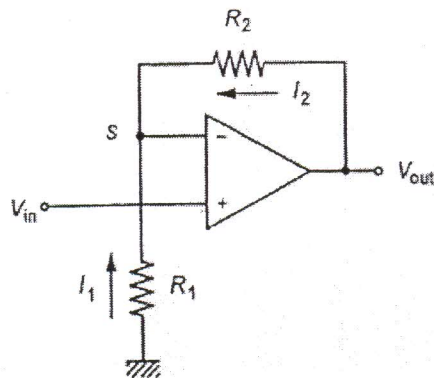

Figure 3: Non Inverting Amplifier
- (a) **Figure 3** shows a non inverting amplifier. Given input voltage, $V_{in} = 2V$ and output voltage, $V_{out} = 12V$. Calculate the resistance value of **R1**, when $R2 = 500k\Omega$ (5 marks)